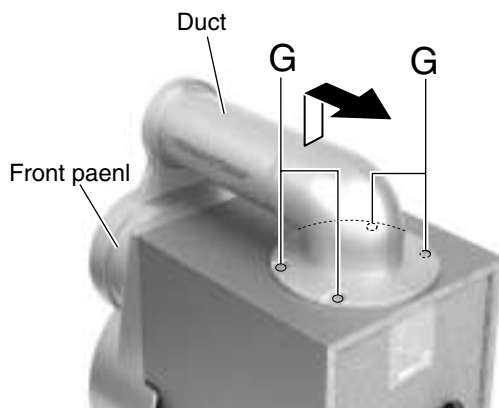

Fig.7
■ Removing the duct (See Fig.7)